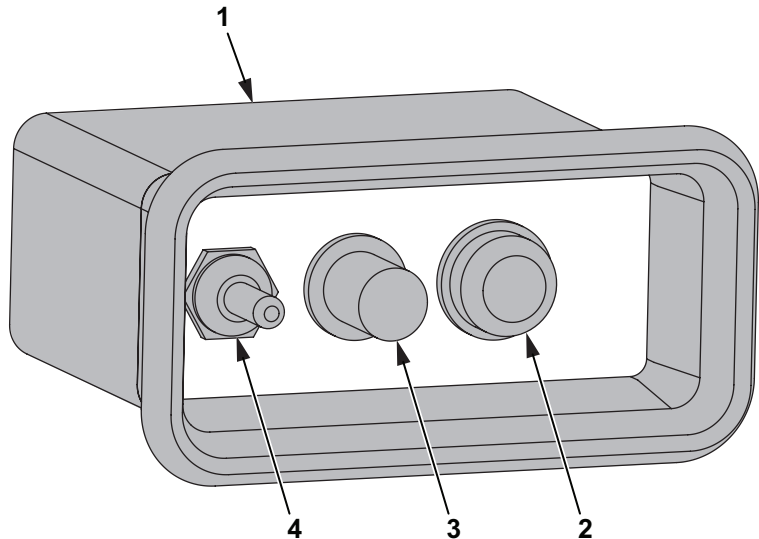

Figure 23 Wireless Remote Control Unit
1. Pull the E-Stop (Figure 23, Item 2) to the out position.
4. Move toggle switch for cylinder forward or reverse (Figure 23, Item 4) to desired position.
5. Adjust cylinder speed control (Figure 23, Item 3) for required pumping speed.
6. When finished using the remote control, press the E-Stop button (Figure 23, Item 2).